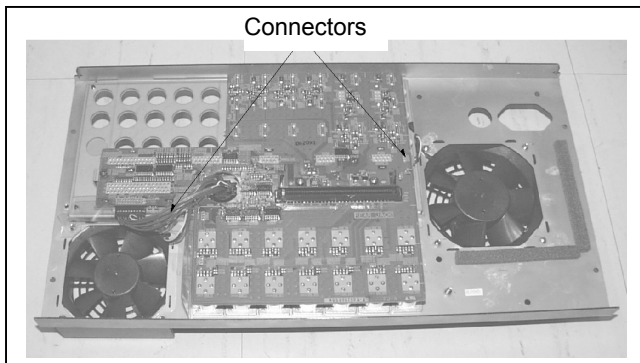

Figure 7-15-2 Fan Motor Removal
2. Disconnect connector as shown in figure 7-15-2.